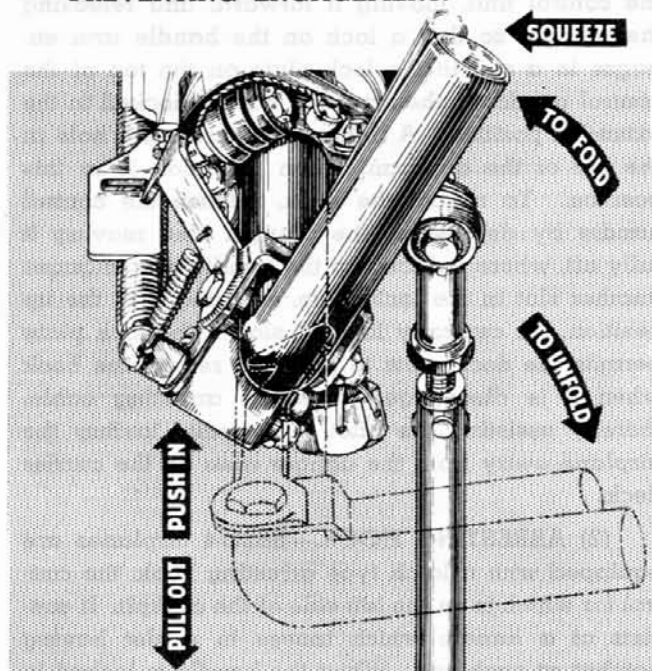

Figure 36 — Wingfold Control Handle
g. **WINGFOLD CONTROL.**—The wingfold control is located on the centerline of the airplane directly below the lower instrument panel. (See figure 36.) To fold the wings, pull the red control